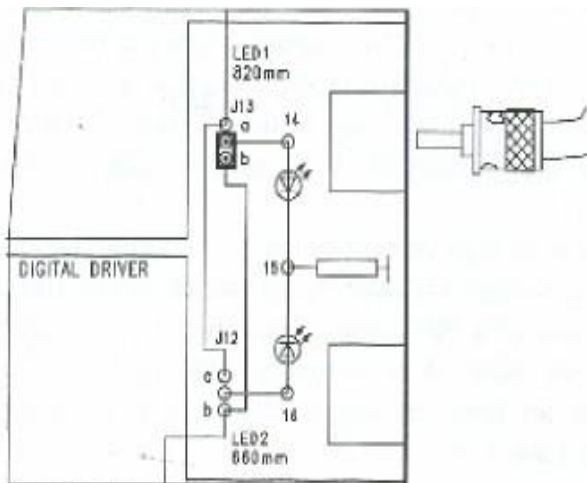

Figure 5.1: Connection Diagram
2. Disconnect the jumper j11-j12 if connected and connect the jumper j13b, so to produce the circuit of fig 5.1. The configuration includes the LED at 820 nm, forward biased with the BIAS trimmer (P4). Turn p4 completely to the right (maximum bias voltage)